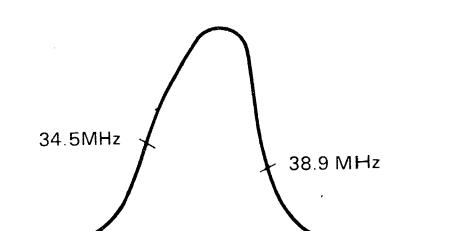

Figure 12. Overall Response Curve
I.F. Overall Response	I.F. Overall Response should be as shown in Figure 12.